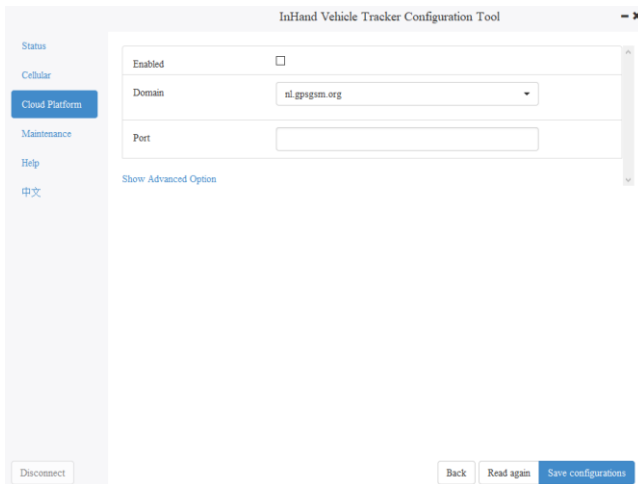

Figure 6-4
Step 3: If you select the Wialon platform, select **Enabled** and set the **Domain** and **Port** parameters. Click **Save configurations** and restart the device. Figure 6-4 shows the configuration page.